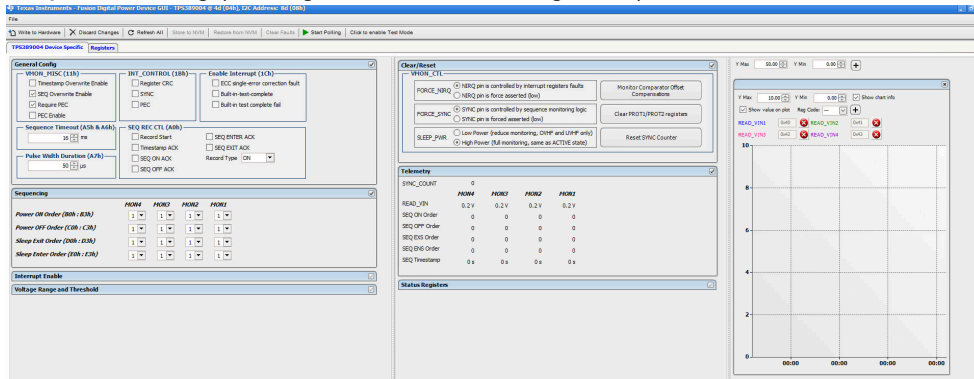
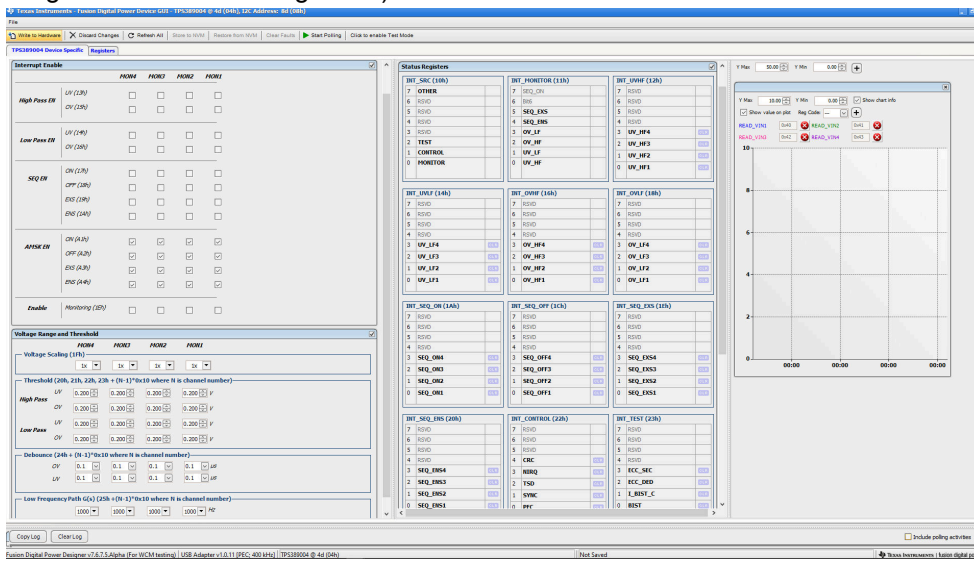
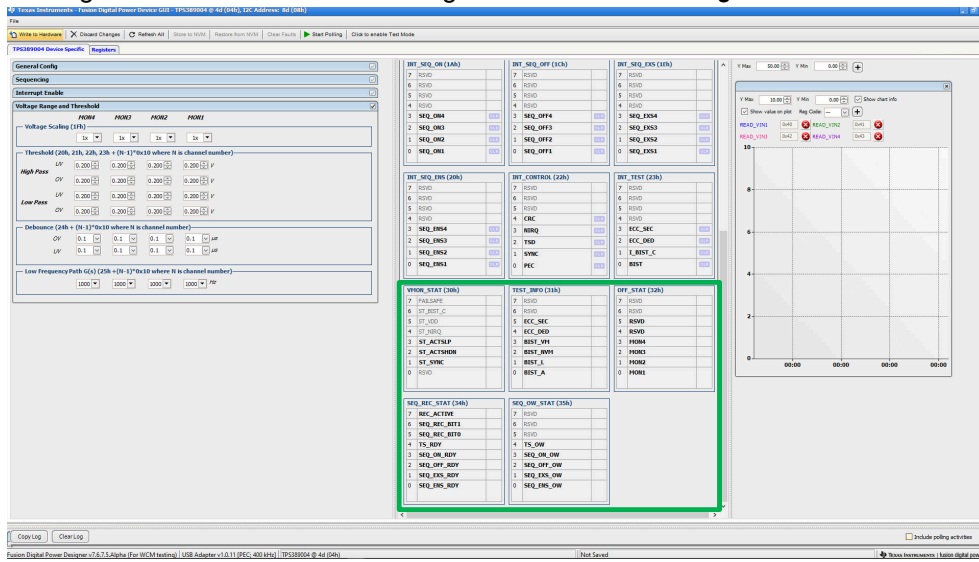

Figure 4-13. Fusion Digital Power Device GUI - TPS389006Q1EVM (Image #1)
Figure 4-14. Fusion Digital Power Device GUI - TPS389006Q1EVM (Image #2)
Figure 4-15. Fusion Digital Power Device GUI - TPS389006Q1EVM (Image #3)
8. Once the EVM is discovered and *Click to Configure* has been selected, the GUI is similar to Figure 4-13, Figure 4-14, Figure 4-15.